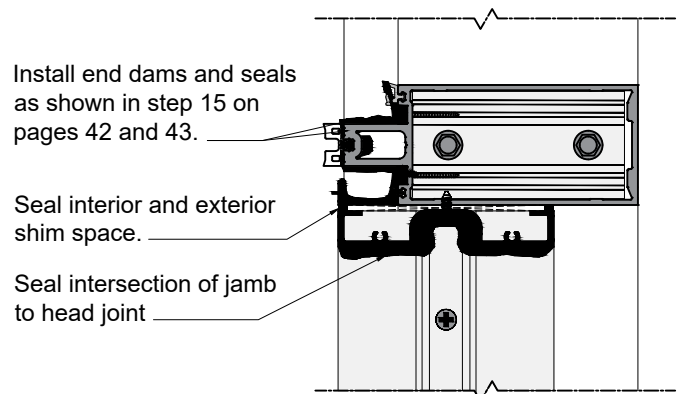

Fig. 65.3
- Seal the top of the jamb subframe as shown in Fig. 65.3.